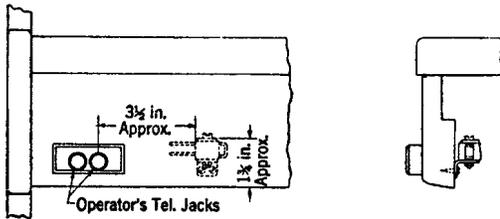

Fig. 2 - Varistor Mounted on Lockrail
3.03 Where the wiring to the telephone jacks enters along the right-hand side of the keyshelf, mount the varistor on the lockrail as indicated by Fig. 2.